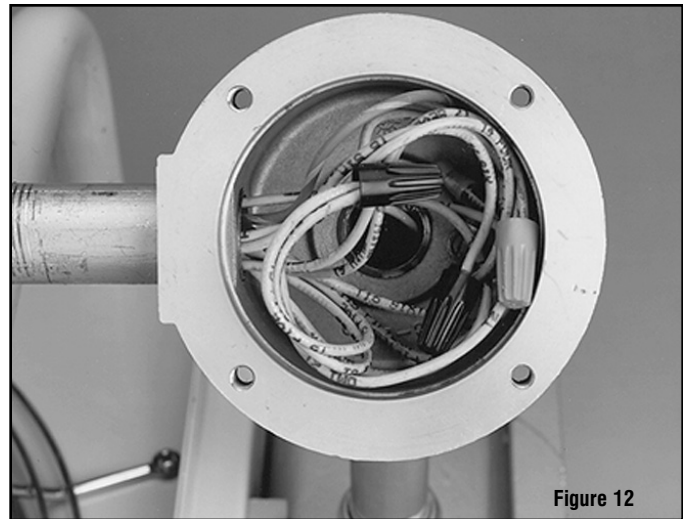

Figure 12
- B. (Units with motor splice box) Remove 4 bolts and cover of motor splice box (See Figure 12).